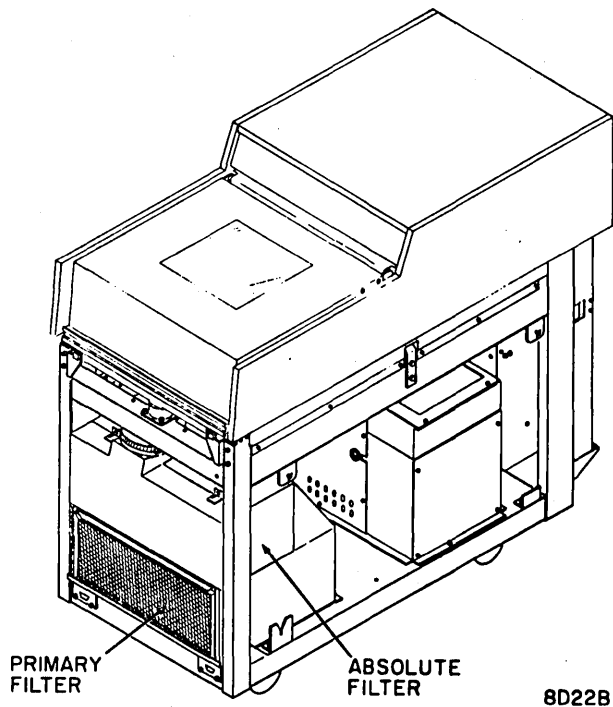

Figure 2-1. Cabinet Filters
1. Remove air filter from bottom of blower assembly at front of cabinet (Figure 2-1) by lifting upward on